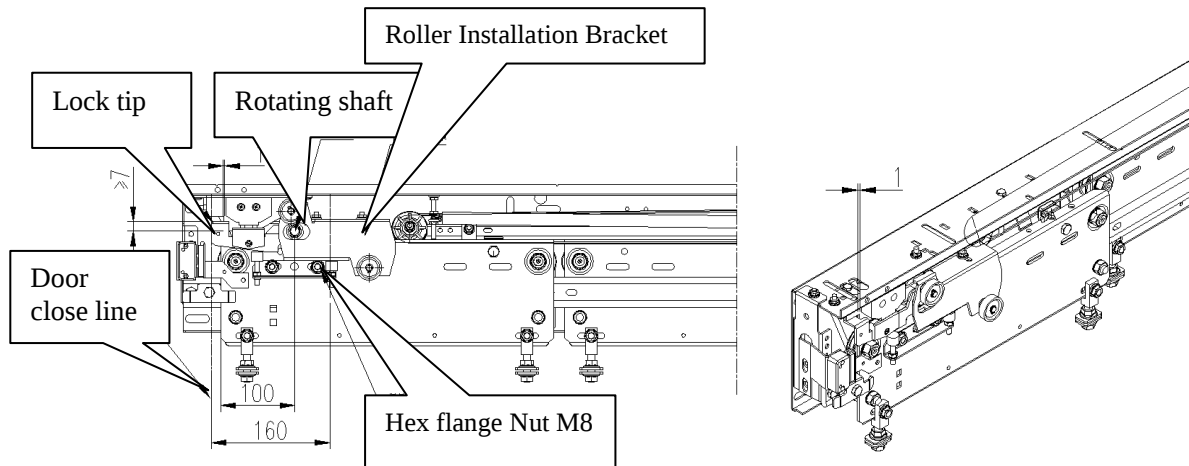

Figure 5-8-1 Landing Door Lock Adjustment
- 1) Loosen the two M8 nuts on the limit rubber bracket, gently move the bracket, and adjust the center of the rotating shaft to 100mm from the edge of the hanger door panel. Tighten nut. Refer to Figure 5-8-1.